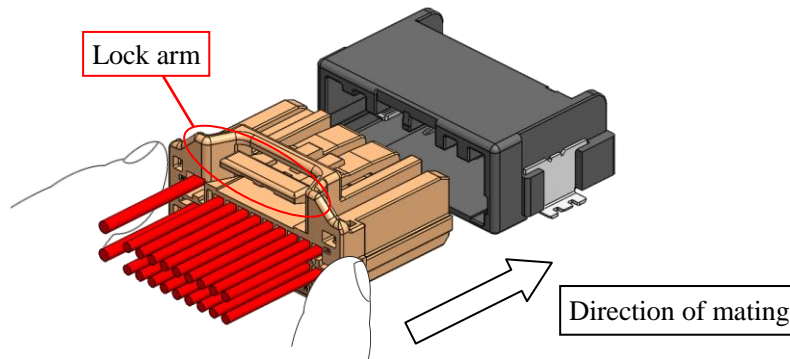

Fig37. Direction of mating
- ① Push the female connector that has been installed the retainer in the direction of mating until makes an audible click (see Fig. 37). While mating the female connector, please do not touch the lock arm to prevent insufficient mating.
- ② After that, pull the female connector lightly to check that the female connector is locked.